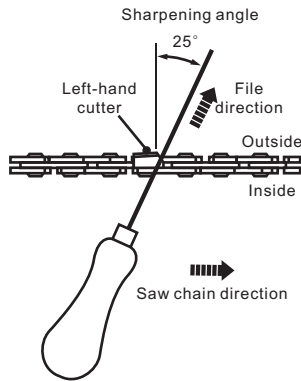

Fig. 26b
6. File at an angle perpendicular to the bar, and at an angle of 25° to the direction of travel. (See Fig. 26b)